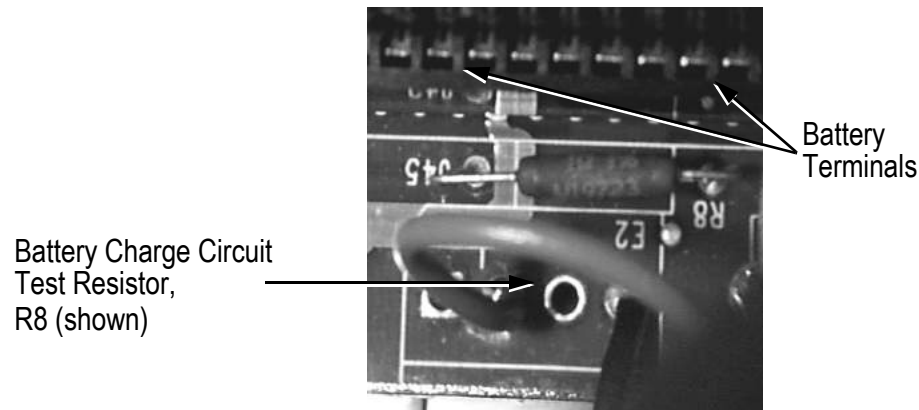

Figure 5.2-2. Location of Battery Charge Circuit Resistor
1. Attach a DVM across R8 on a 90 MHz system (or R9 on a 80 MHz system) on the Mother board, see Figure 5.2-2. Note that the polarity of the hookup is not important.